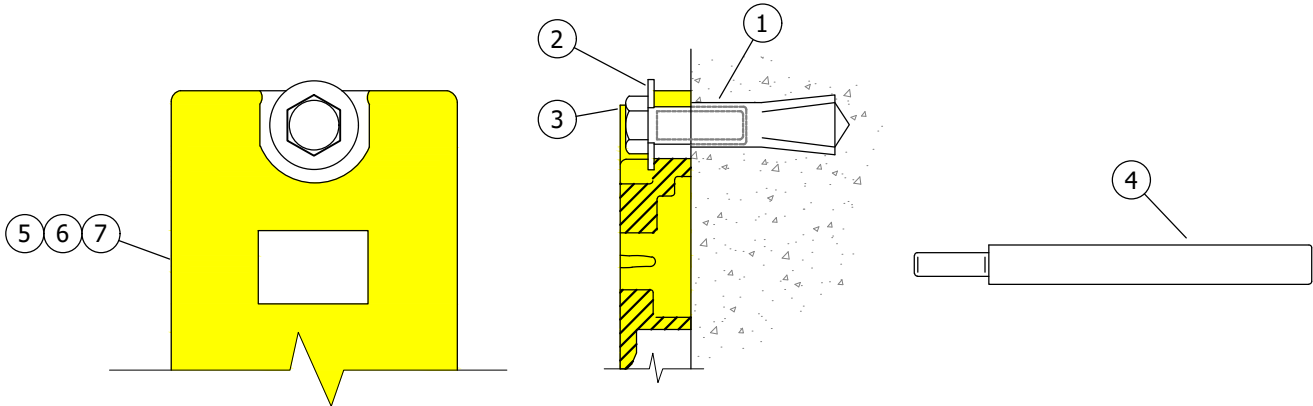

FIGURE 1
(V) INCLUDES ALL HARDWARE SHOWN ON FIGURE 1.